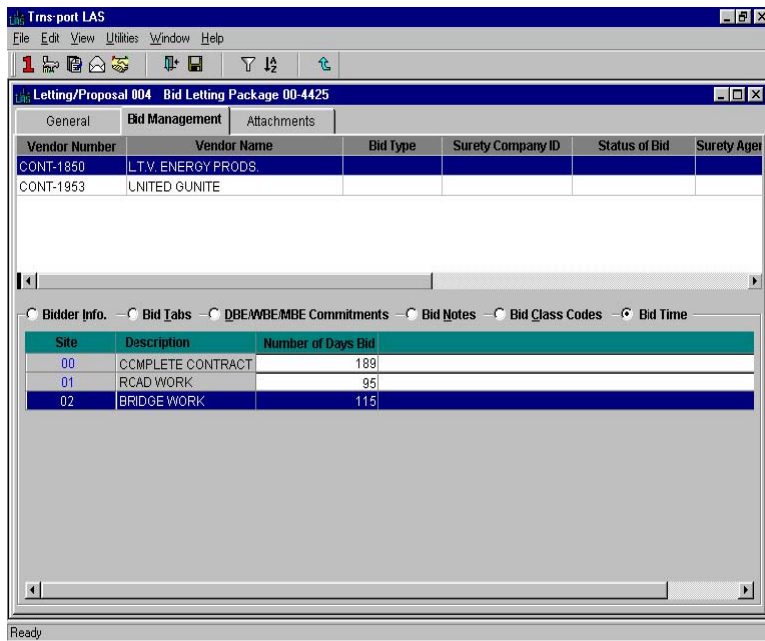

Figure 9-1. Bid Time Page of the Bid Management Tab
3. Click the BID MANAGEMENT tab and then click the BID TIME option button. Trns•port displays a list of all the contract sites with site descriptions and any Number of Days Bid currently associated with the bidder (see Figure 9-1).